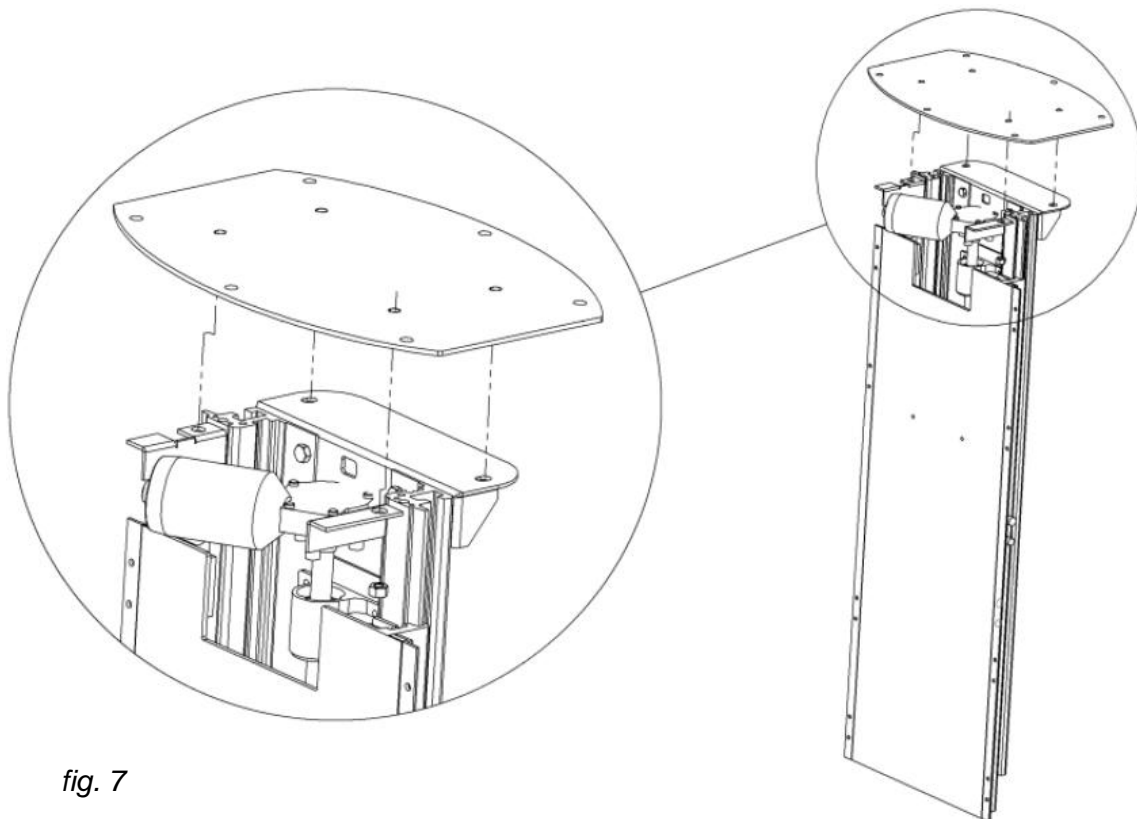

fig. 7
7. Screw the upper plate to the bracket and the top of the lift (fig. 7)